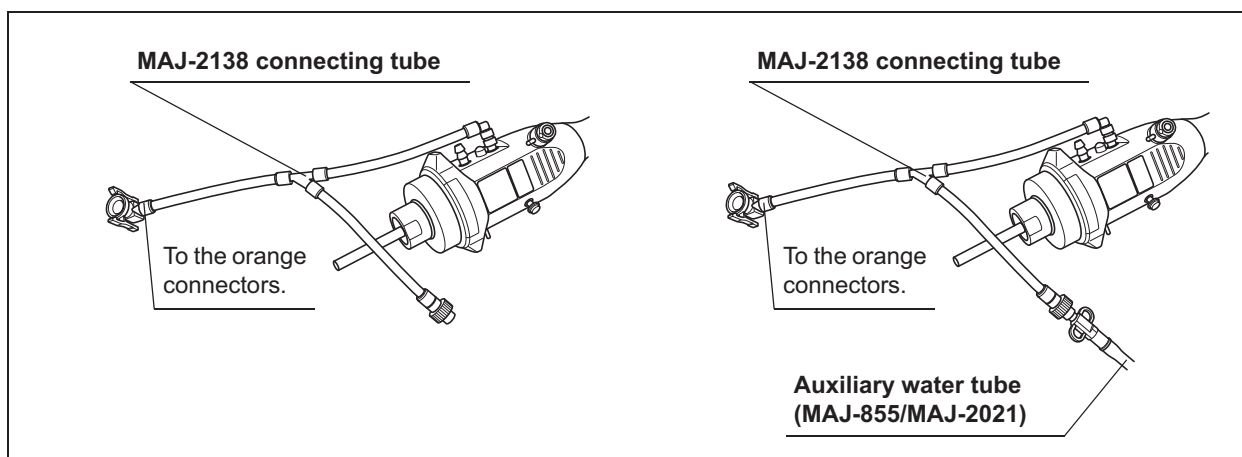

Figure 6.21
When using the MAJ-2138 refer to “■ Loading of auxiliary water tube of first endoscope” on page 186 and Figure 6.21 on page 186.
- 1** Insert the endoscope side connector of the MAJ-2138 connecting tube into the auxiliary water inlet of first endoscope. Turn the outer ring clockwise to connect firmly. Refer to right of the Figure 6.21.
- 2** Insert the auxiliary water tube side connector of the MAJ-2138 connecting tube into the Luer port of the auxiliary water tube. Turn the outer ring clockwise to connect firmly. Refer to left of the Figure 6.21.